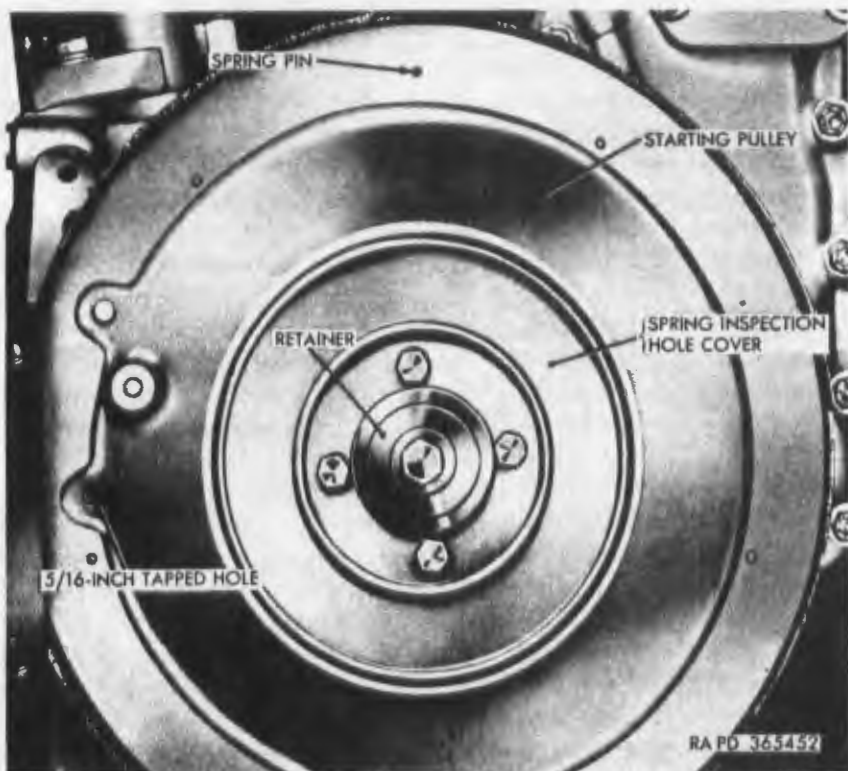
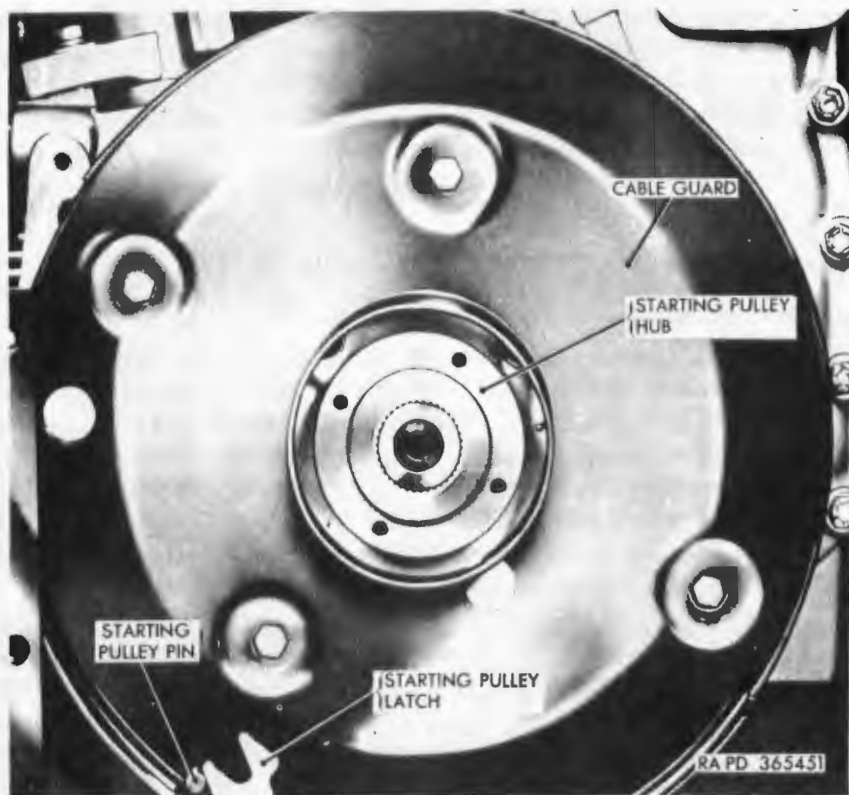

Figure 170. Starting pulley—installed.
Figure 171. Starting pulley hub and cable guard.
a. Removal. Remove auxiliary generator and engine (par. 188a). Remove four panhead screws with integral lockwashers that secure front panel (fig. 158) and remove front panel. Pull upward on manual starting handle (fig. 158) and hold manual starting cable. Pry cable retainer from top of handle and drive out spring pin. Remove retainer and handle from cable. Pull starting cable from bottom of cable tube (fig. 158). Remove two hex-head bolts and lockwashers securing cable support (fig. 158) to rocker arm cover and two hex-head bolts and lockwashers securing cable tube bracket to crankcase. Remove cable tube and cable support from auxiliary generator and engine and slide support off cable tube. Install a $\frac{5}{16}$ -18 bolt, 6 or 7 inches long, in the $\frac{5}{16}$ -inch tapped hole (fig. 170) in starting pulley. Using bolt as handle, rotate pulley clockwise approximately three-fourths inch, and turn pulley latch knob at rear of cable guard (fig. 171) counterclockwise as far as possible. Permit pulley to rotate counterclockwise until pin on pulley is stopped by starting pulley latch (fig. 171). Repeat this procedure until tension of spring in starting pulley is relieved. Remove four hex-head bolts and lockwashers that secure starting pulley and spring inspection hole cover (fig. 170) to the starting pulley hub (fig. 171). Remove cover and lift pulley with spring enclosed, from hub. Drive the spring pin (fig. 170) from starting pulley and the end of starting cable, and remove cable from pulley.
c. Installation. Insert one end of manual starting cable in groove of starting pulley (fig. 170) and aline hole in cable end with the $\frac{1}{8}$ -inch reamed hole in pulley. Secure cable to pulley by driving a $\frac{1}{8}$ x $\frac{1}{2}$ spring pin (fig. 170) into holes in pulley and cable. Wind cable clockwise around pulley. Position starting pulley (fig. 170) with inclosed spring, to the cable guard (fig. 171), so that hook on inner end of spring enters the notch in flange of guard. Position spring inspection hole cover (fig. 170) on pulley and secure pulley and cover to starting pulley hub (fig. 171) with four $\frac{1}{4}$ x $\frac{5}{8}$ hex-head bolts and $\frac{1}{4}$ -inch lockwashers. Install a $\frac{5}{16}$ -18 bolt 6 or 7 inches
long, in the $\frac{5}{16}$ -inch tapped hole in starting pulley (fig. 170). Remove spark plug (par. 194a(1)) to prevent engine from starting when pulley is rotated. Using bolt as handle, rotate pulley clockwise until pin on pulley is stopped by the starting pulley latch (fig. 171). Turn pulley latch knob on rear of cable guard (fig. 171) clockwise as far as possible to allow pin to pass latch. Repeat this procedure until spring tension prevents further rotation of pulley. Turn latch knob clockwise and allow pulley to slowly rotate counterclockwise until pin on pulley strikes latch, pulley spring will now be adjusted to its proper tension. Install spark plug (par. 194a(2)). Slide cable support on cable tube. Position cable tube and support on auxiliary generator and engine and secure cable tube bracket to crankcase with two $\frac{1}{4}$ x $\frac{9}{16}$ hex-head bolts and $\frac{1}{4}$ -inch lockwashers. Secure cable support to rocker arm cover with two $\frac{9}{16}$ x $2\frac{3}{4}$ hex-head bolts and $\frac{5}{16}$ -inch lockwashers. Insert free end of manual starting cable through bottom of cable tube. Pull end of cable out of tube, hold cable, and slide manual starting handle and handle retainer onto cable. Drive a $\frac{1}{8}$ x $\frac{1}{2}$ spring pin into holes in retainer and cable end to secure retainer to cable. Slide manual starting handle up on